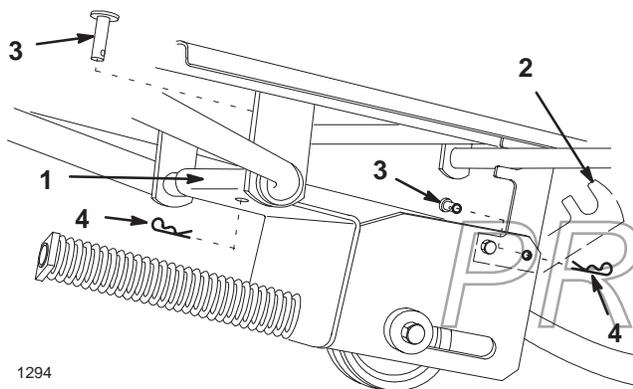

Figure 15
15. Hook the idler pulley assembly, rear hook onto the tractor lift shaft (Fig. 15).
16. Rotate the front latch hook up to engage the cross shaft (Fig. 15).
17. Secure it with 2 clevis pins and 2 hairpin cotters (1-7/16 in.) at the rear hook and the front latch hook (Fig. 15).